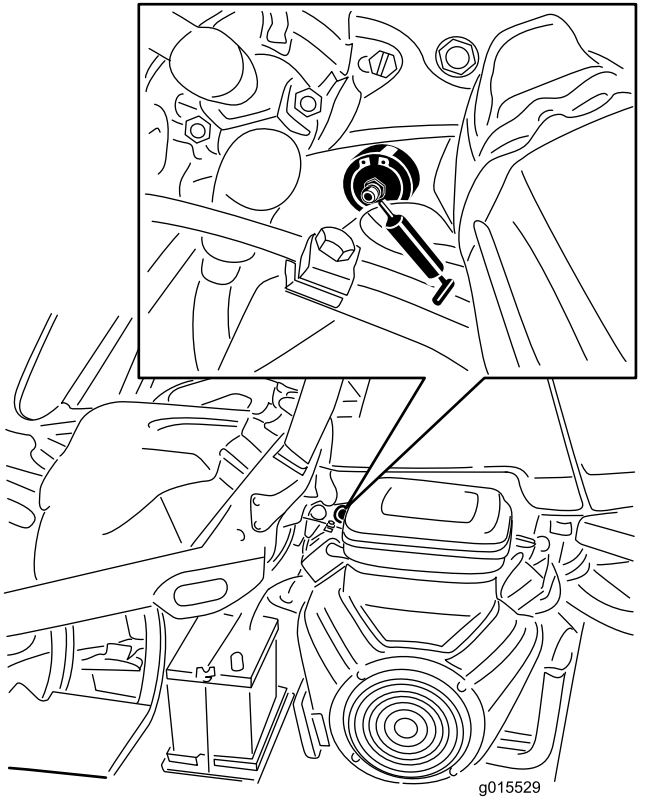

Figure 28
1. Wipe the grease fitting clean so that you do not force foreign matter into the bearing or bushing (Figure 28).